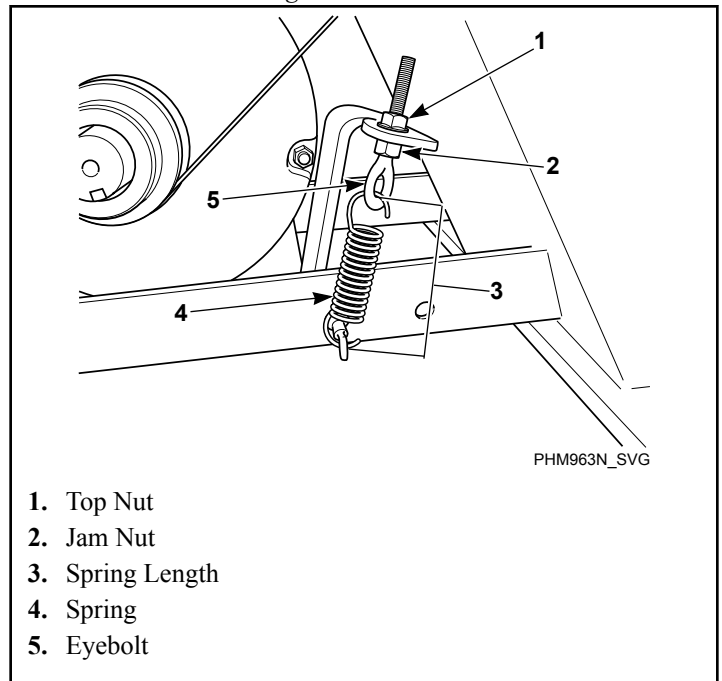

Figure 45
**NOTE: Basket pulley must be rotated three (3) full turns before assessing belt tension after every adjustment.**
- **Frequency Gauge.** Tighten eyebolt top nut until the correct frequency (refer to *Table 36*) is obtained mid-span. Torque jam nut to spring bracket to  $20.6 \pm 2$  ft.-lbs. Refer to *Figure 45*.
Torque jam nut to spring bracket to  $20.6 \pm 2$  ft.-lbs. Refer to *Figure 45* .
- **Spring Length.** Tighten eyebolt top nut until the spring measures 3 15/16 inches [103 mm] (45-65 pound models) or (85-160 pound models) between the hooks. Torque jam nut to spring bracket to  $20.6 \pm 2$  ft.-lbs. Refer to *Figure 45* .
- **Maintain Tension During Belt Removal.** If proper tension is achieved, tape the jam nut in place and loosen eyebolt top nut to release the belt. Replace belt and retighten eyebolt top nut back to jam nut position. Refer to *Figure 45* .